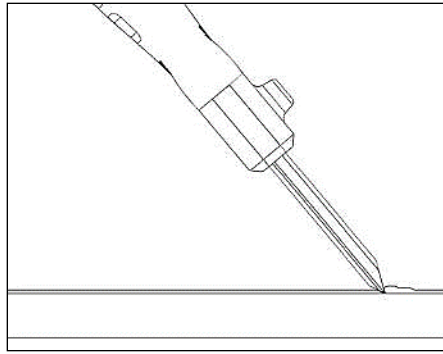

Figure 7. Initial Material Engagement
3.2.2. With the cutting edge of the TSB at a 35-45 degree angle to structure surface, pierce the coating, boot or tape material so the cutting edge is embedded in the material. See **Figure 7**.